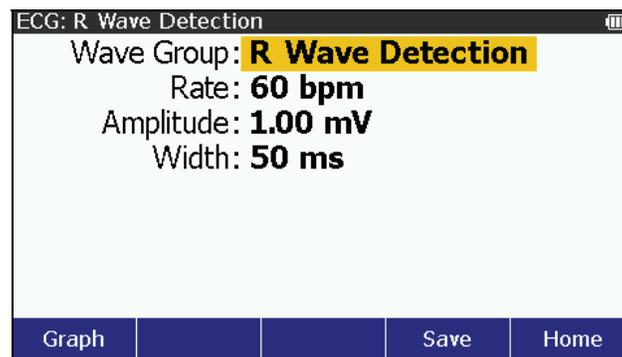

Figure 11. R-Wave Detection Screen
5. Push **ENTER** to show the **ECG: R Wave Detection** screen in Figure 11 in the display.